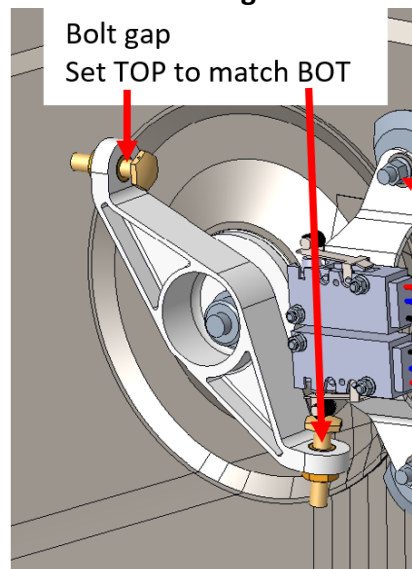

Figure 13. Adjust bolt gap
18. Adjust bolt on limit switch retrofit bracket so bottom ("BOT") extended limit switch is activated. Adjust bolt gap on limit switch retrofit bracket so that top ("TOP") side has the same gap as the bottom. Torque jam nut to 15±2 in-lbs. Reference **Figure 13**.